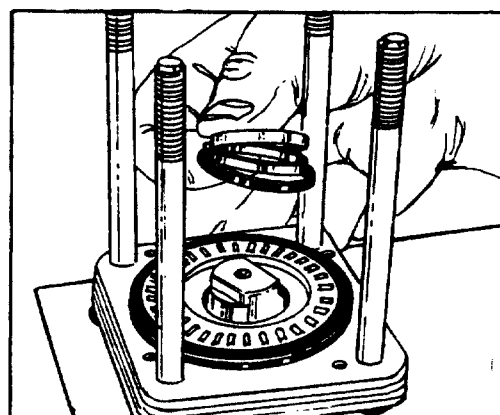

FIGURE 32.
39. Remove face seal (29), back-up ring (30), and face seal spacer (31) from upper cover plate (32). See figure 32. Discard the face seal (29) and back-up ring (30). Retain metal spacer (31).